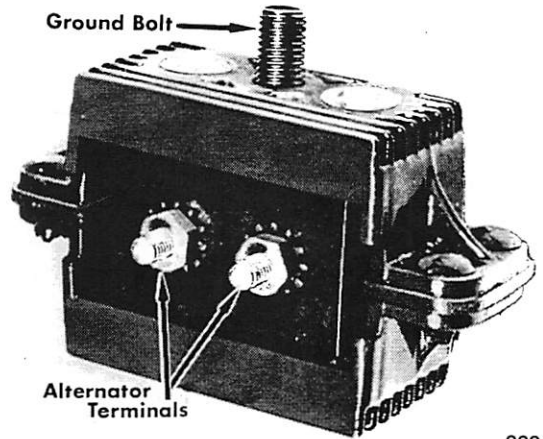

Figure 3. Testing Negative Diodes
- a. Connect small red test lead to either alternator terminal and connect black test lead to rectifier ground stud. (Figure 3) Meter pointer should remain stationary at left side of scale No. 3.